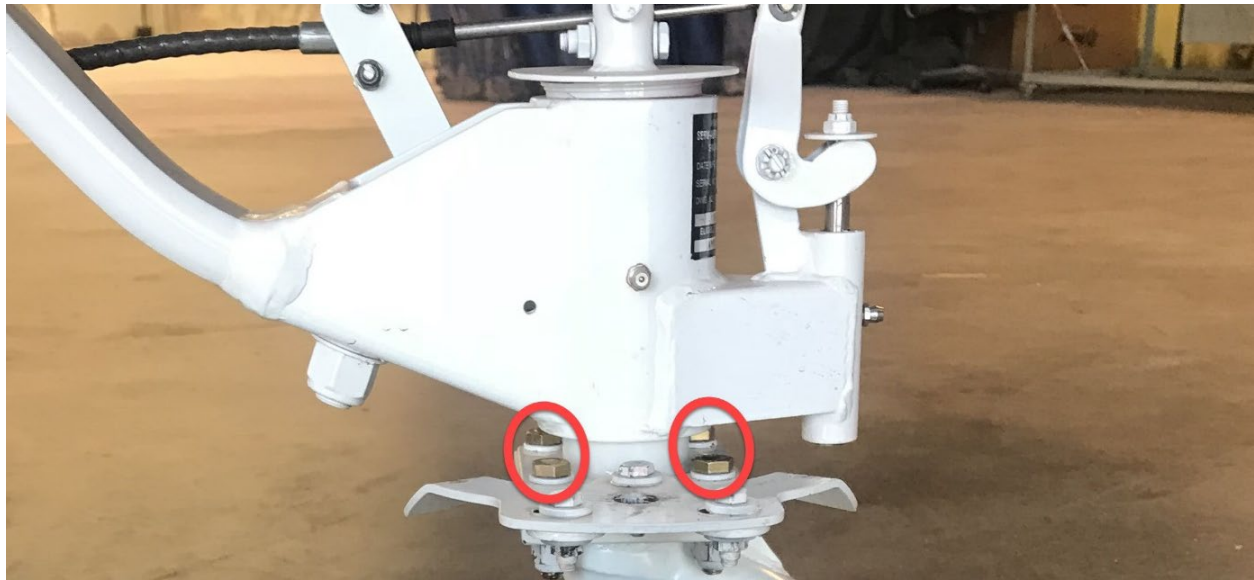

Figure 45-1h
2. Separate tailwheel assembly from spring/spindle assembly by removing (4) attaching bolts. See Figure 45-1h.